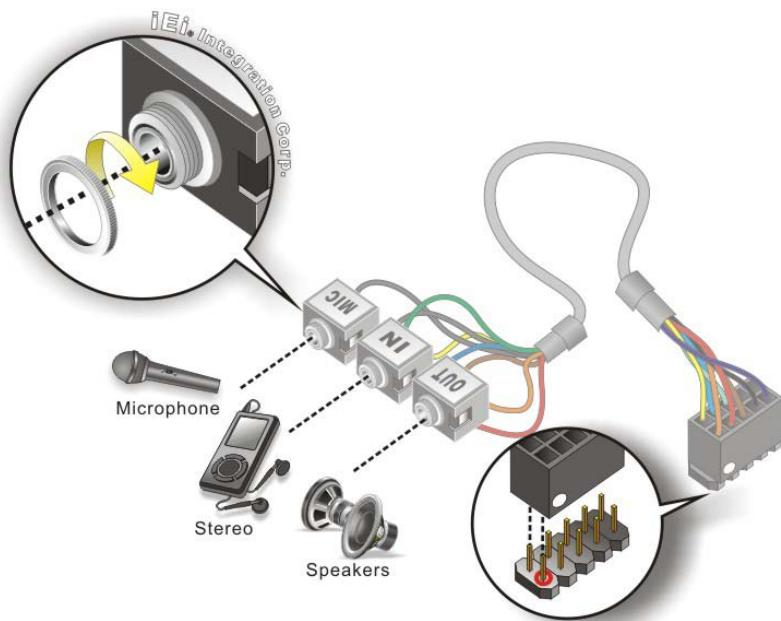

Figure 4-2: Audio Kit Cable Connection
Step 2: Align pin 1. Align pin 1 on the on-board connector with pin 1 on the audio kit connector. Pin 1 on the audio kit connector is indicated with a white dot. See Figure 4-2.